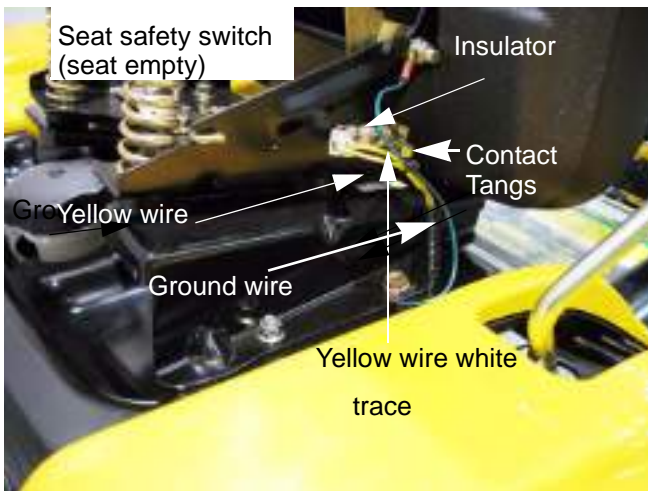

Figure 7.10
6. The **Seat Safety Switch** consists of a pair of simple metal contact tangs attached to the seat mounting bracket. See Figure 7.10.
NOTE: The rubber mounts for the seat bracket insulates it from ground. There is a ground wire that provides a ground for the seat bracket. A failure in that wire will prevent the seat switch from working. See Figure 7.10.